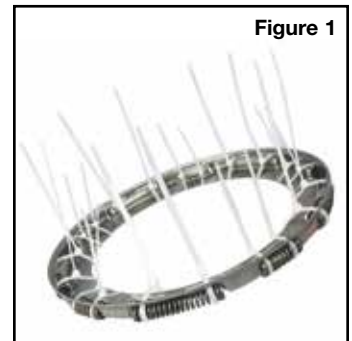

Figure 1
- Assembly of the salvaged spring retainer to the new piston is virtually impossible unless you use zip ties to retain the ends of each of the damper springs (**Figure 1**). Zip ties must be less than .055" thick for retainer to fit into the piston. You must also ensure the zip tie is threaded inside the spring pocket so it will not interfere with the assembly into the piston. Be sure to align the rivet holes when pushing the retainer into the piston.